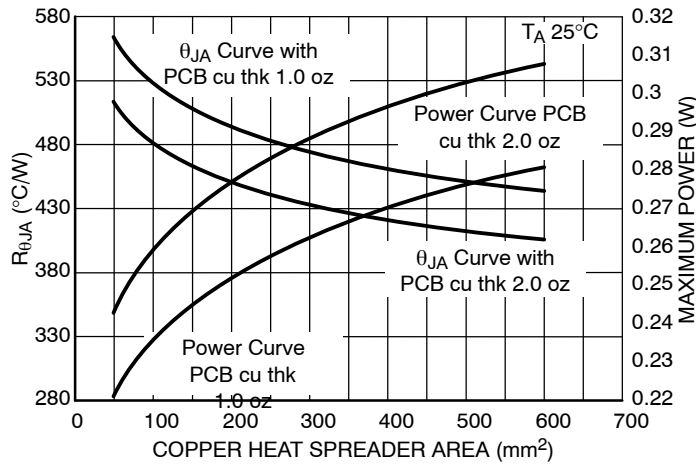
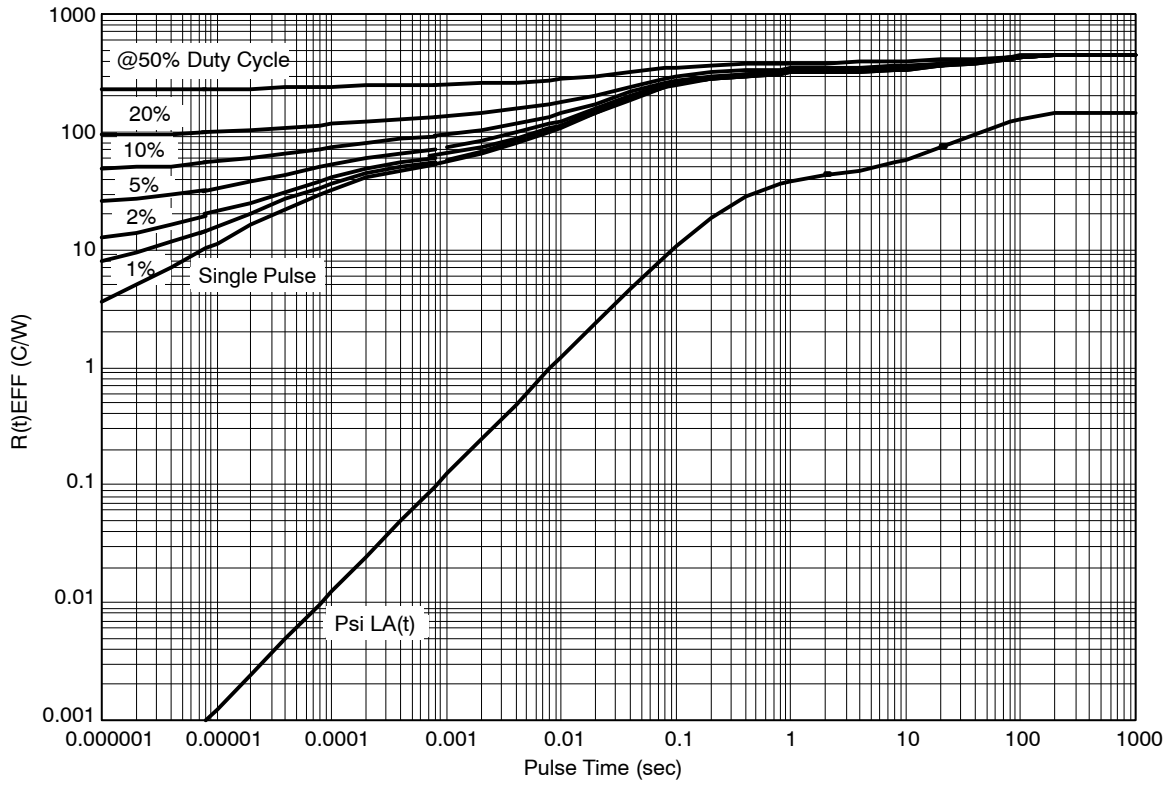

Figure 9. Self-Heating Thermal Characteristics as a Function of Copper Area on the PCB
Figure 10. Thermal Response
The subsequent sections outline the thermal performance of a SOT-963 527AD. All values and equations are obtained from simulations and pertain to the Theta(DC) matrix with both MOSFETs operating at maximum power unless otherwise specified. A 10% duty cycle is arbitrarily chosen to evaluate various thermal responses. Refer to Figure 10 for thermal responses at different duty cycles. The simulation models used to derive the results in this section are modeled around results obtained from physical testing and are considered reliable. Table 1 defines a set of parameters used throughout this section.
Figure 9 illustrates a steady state plot of the change in thermal resistance and max power dissipation that occurs with a change in the amount of copper spread across a given area. Figure 10 illustrates the packages change in junction-to-ambient thermal resistance with respect to pulse time. Evaluating these plots by inspection yields the following maximum values;